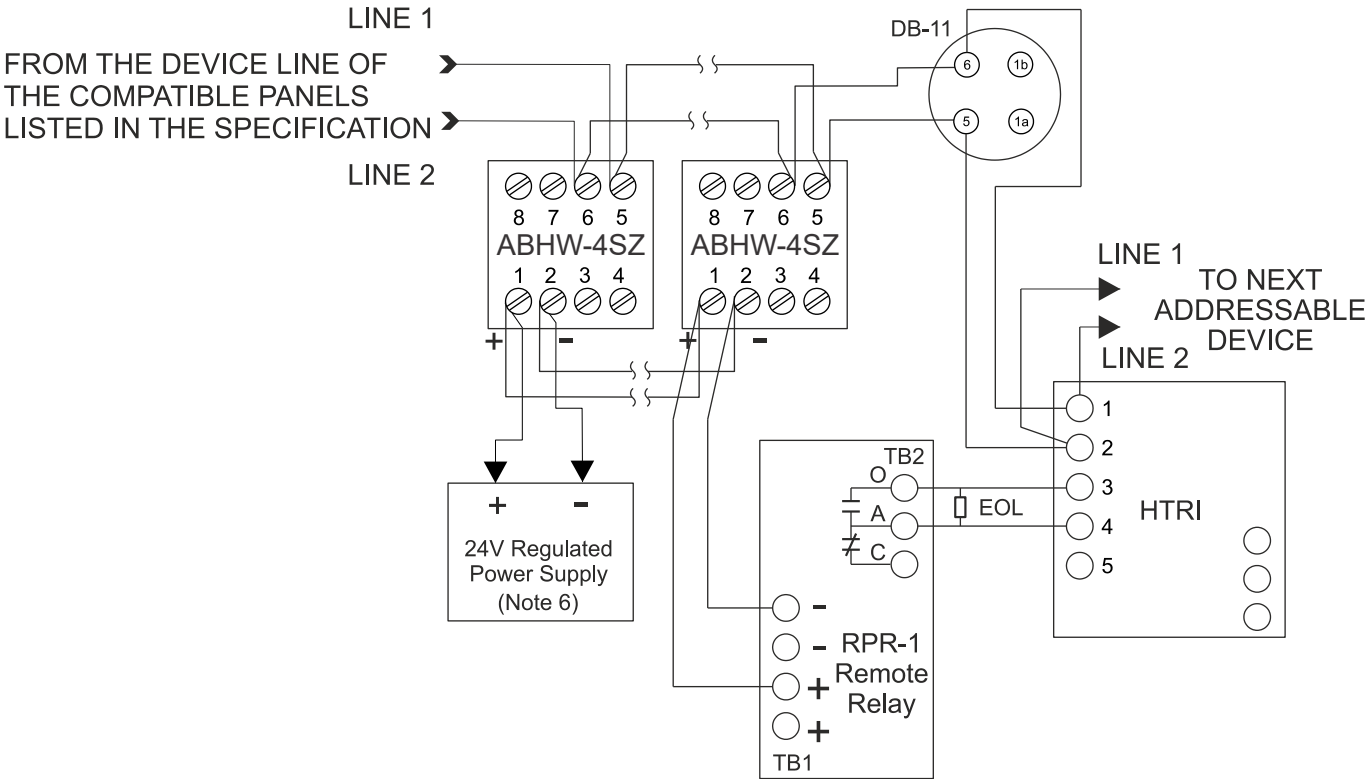

Fig. 1: Typical Non-Isolated Installation/Wiring Diagram for ABHW-4SZ Audible Base Powered by 24 VDC Regulated Power Supply
1. The alarm current of ABHW-4SZ has to be energized by any UL listed 24 VDC regulated auxiliary power supply including the aux power output of XLS/Desigo Fire Safety Modular/Cerberus PRO Modular, FC2005/FC901, FC2025/ FC2050/FV2025/FV2050, FC922/FC924/FV922/FV924 and 3 PAD-3/PAD-4/PAD-5 (refer to Figure 1), ZIC-4A (FireFinderXLS/Desigo Fire Safety Modular/Cerberus PRO Modular zone indicating card (NAC), refer to Figure 3), PAD-3/ PAD4/PAD-5 (Figure 4), or a 24 VDC NAC circuit such as FC2005/ FC901 (Refer to Figure 5) or NAC circuit such as FC2025/FC2050/FV2025/FV2050, FC922/FC924/FV922/ FV924 (Refer to Figure 6).
Figure 1 and 2 Notes: